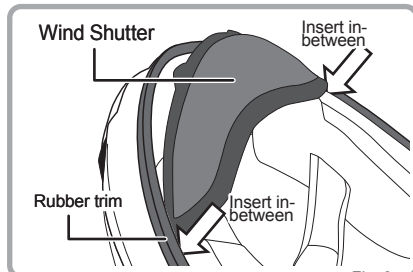

Fig. 2
2. Insert the interlining of both sides of the Wind Shutter in-between the front area of the cheek pad and the rubber trim. (Fig.2)